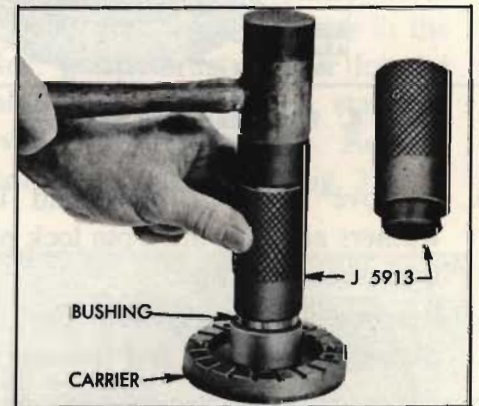

Fig. 10. Installing bushing in blade carrier
- Inspect the piston oil seal ring and bore of blade carrier for scores or wear. If necessary, replace carrier bushings as shown in Fig. 10.